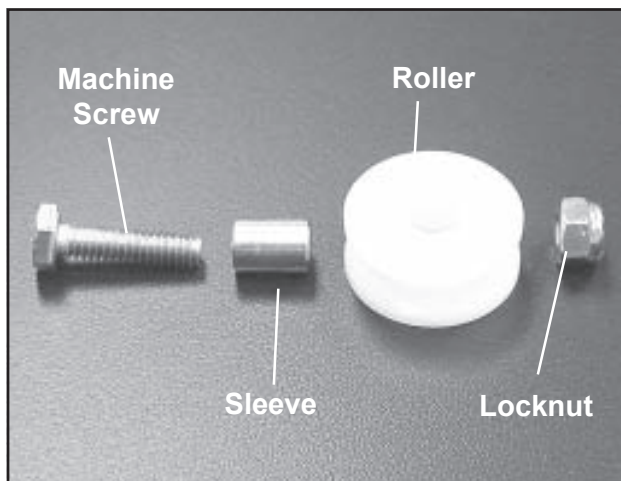

Figure 37. Roller and Sleeve
5. Install the sleeve into the new roller (Figure 37).